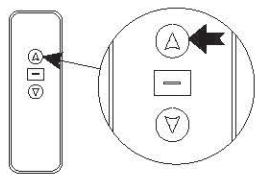

Figure 9
- As per figure 9 and 10, IF press the UP the iron hand retracts; press DOWN the iron hand extends, that proves successful pairing.